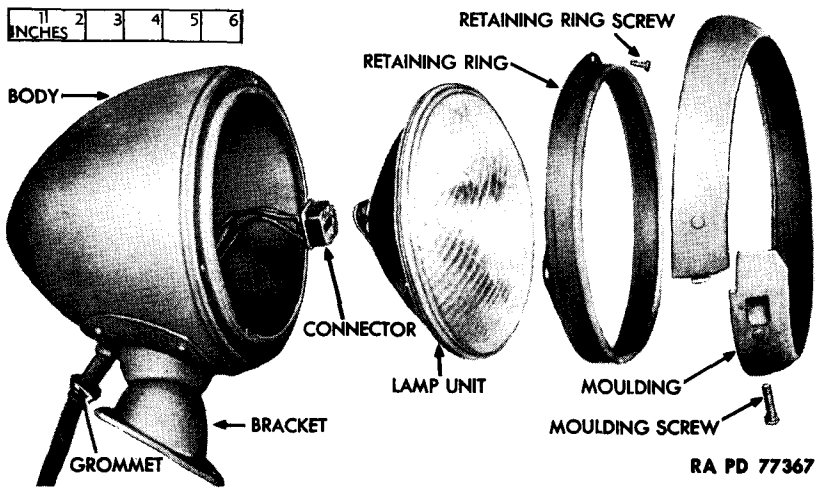

Figure 98 – Headlight Disassembled
(1) DESCRIPTION (fig. 98). Two sealed-beam headlights are mounted outside the cowl above the front fenders. The unit, consisting of lens, lamp, and reflector, is held in place by a retaining ring covered by moulding.
(2) TABULATED DATA.